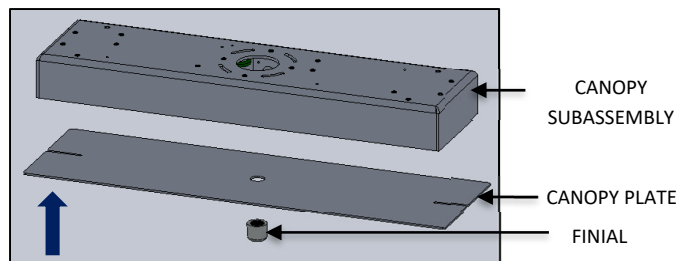

FIG. 4 - CANOPY DIS-ASSEMBLY
1. Dis-assemble the FINIAL and CANOPY PLATE from the CANOPY SUBASSEMBLY as shown in FIG. 4 below.